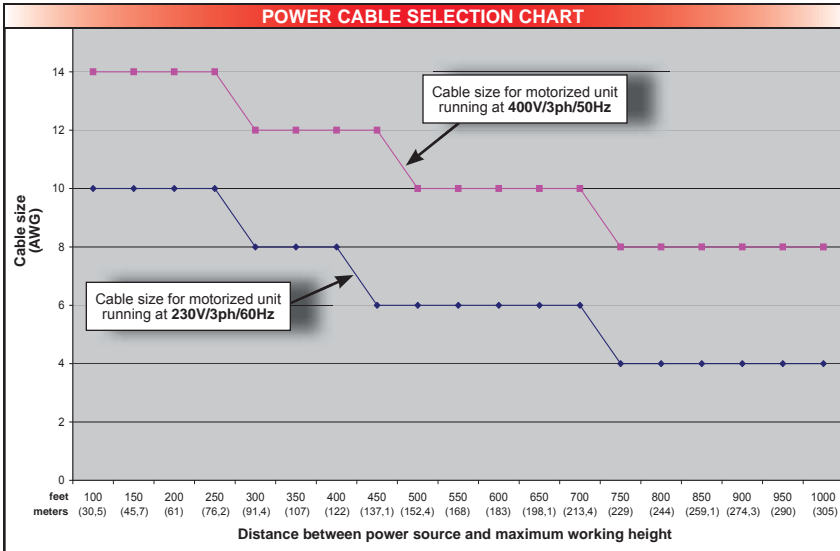
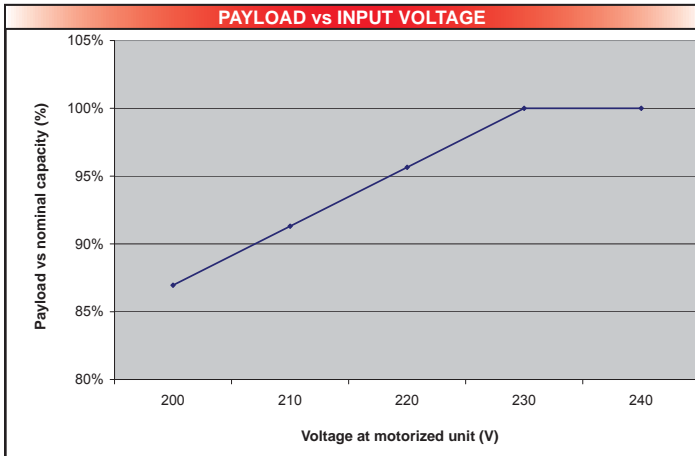

Fig. 4.1
Fig. 4.4
- 3- Select a power cable that is suitable for the height of the setup. Hook up the power cable to the motorized unit. **This installation must be performed by a certified electrician.** Refer to the *Power Cable Selection* chart (fig. 4.1) and the *Payload vs Input voltage* chart (fig. 4.4) to select the appropriate cable for the installation.